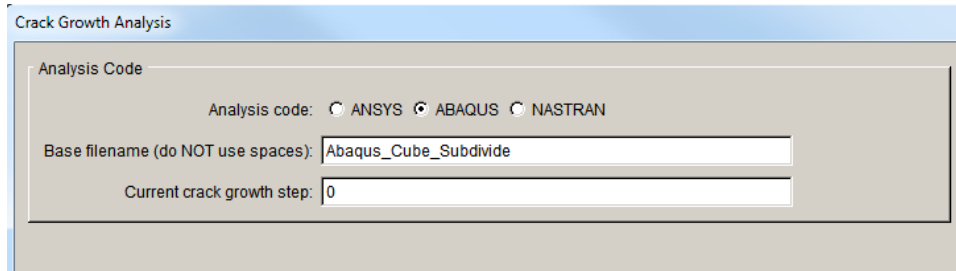

Figure 2.58 Crack Growth Analysis wizard – seventh panel.
The seventh panel, Fig 2.58, shows that ABAQUS is the solver. The current crack growth step defaults to 0 – representing the initial crack. (If we “manually” propagated the crack first, we should set this to 1.) FRANC3D will extend the initial crack based on the growth rule defined in the previous panels, and then name the resulting set of files as
*Abaqus_Cube_Subdivide_STEP_001.**. Subsequent file names have the step number incremented as the automatic analysis proceeds. Select **Next** (button not shown in Fig 2.58).